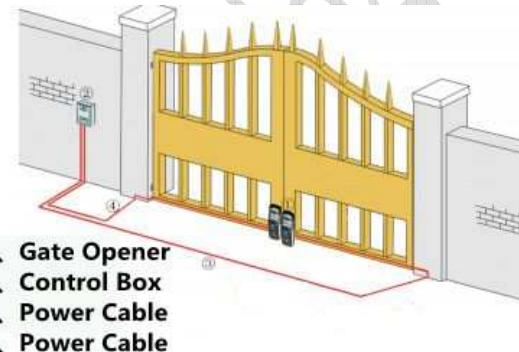

Fig.2
2. Control and power distribution structure, as shown in Fig.2
4. Bury the wire pipes with reference to the wiring diagram of the power distribution system of the gate opener(Fig.2) and determine the diameter and number of cores of muti-strand flexible wires(power cables).